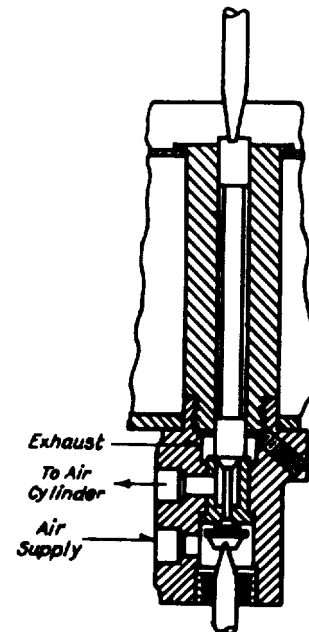

Figure 28. Method of grinding standard valve.
(1) *Standard valve (fig. 28).*